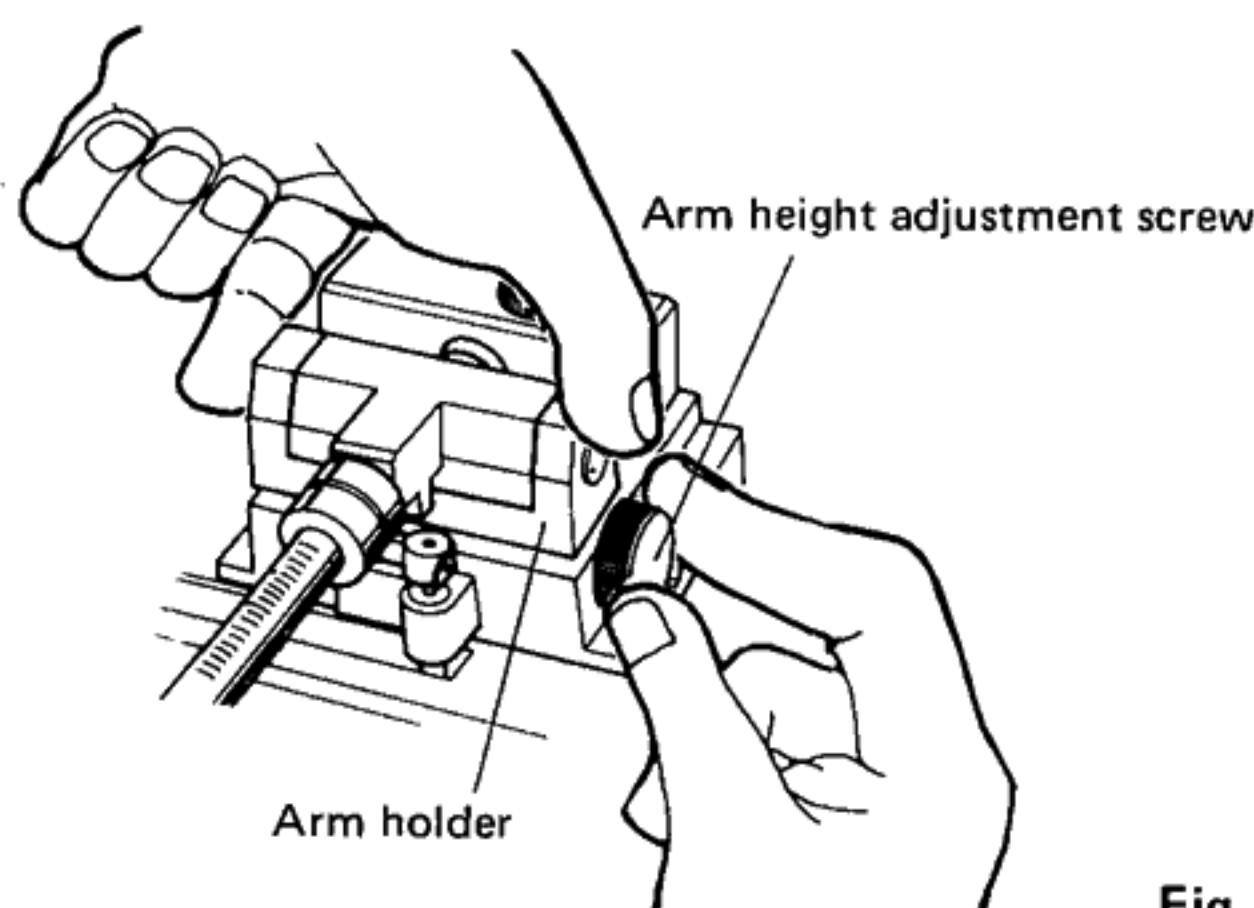

Fig. 6
- With the set in this condition, adjust the tonearm so that it becomes level. While holding the arm holder, position the arm pipe parallel to the record surface and then secure it in place by turning the arm height adjusting screw in a clockwise direction. See Fig. 6 and 7 below.